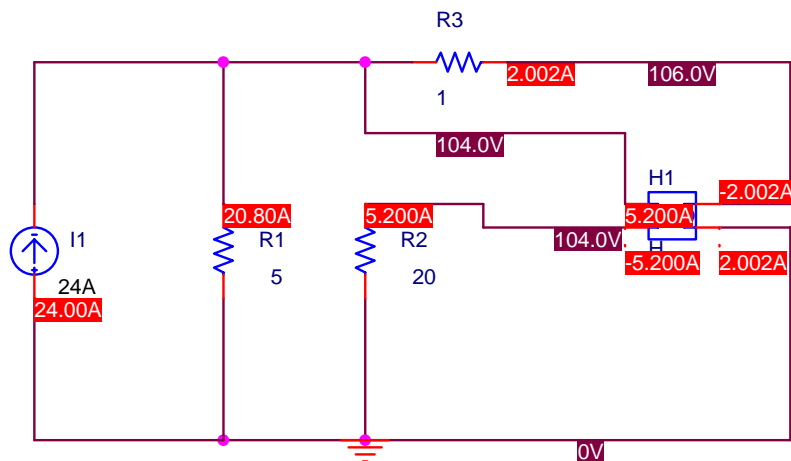

Figure 2.3 – Circuit 2 with voltages and currents shown after simulation.
7) Verify that the results for the voltages and currents as shown in Figure 2.3 are correct by checking them against hand calculations before proceeding with the tutorial.